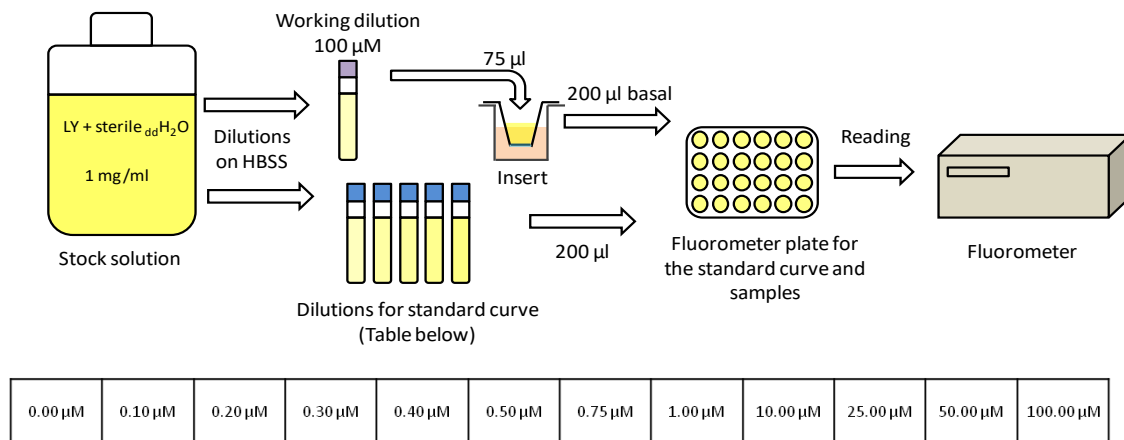

Figure 3. General Procedure and Recommended Concentrations for Lucifer Yellow Standard Curve
Prepare a Lucifer Yellow (LY) Stock Solution of 1mg/ml in sterile ddH₂O. Aliquot (For example 500 µl) and store at -20°C. Pre-warm (37°C) the Working dilutions of LY before use (see Figure 3, below for recommended Working dilutions).
- ii) Add 75 µl of LY Working dilutions, as recommended in Figure 3 below, into the wells on the wells in the apical compartment.